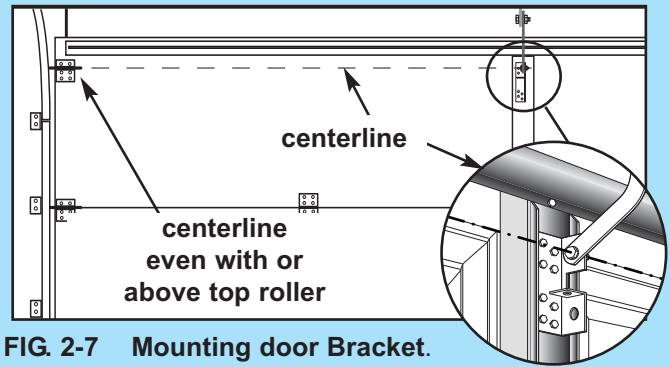

FIG. 2-7 Mounting door Bracket.
- Door bracket is mounted as high on door as possible along vertical centerline and **NO LOWER THAN** top set of rollers (**Fig. 2-7**).